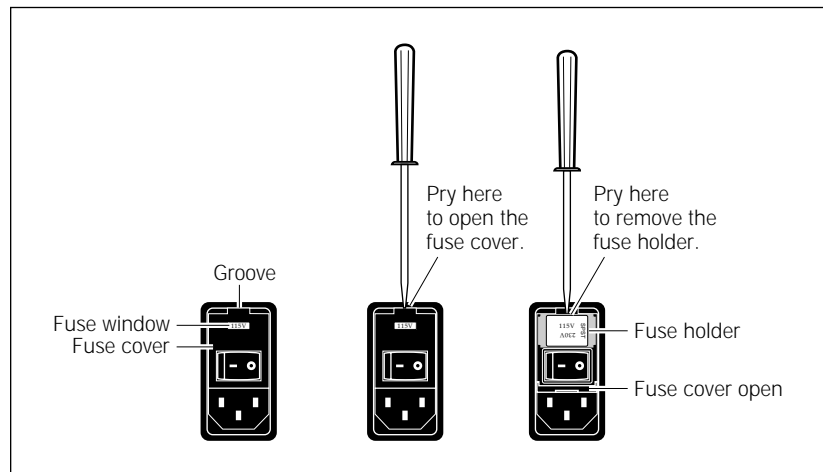

Figure 11-3. Opening the fuse box.
2. Note the voltage (115 V or 230 V) showing in the fuse window (figure 11-3).
4. Place the end of a small flathead screwdriver in the groove and pry open the fuse box (figure 11-3).